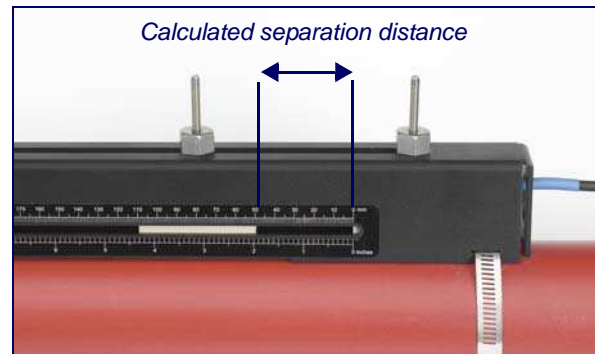

Figure 2.13
10. Position the upstream transducer so that the inner face of the transducer is set to the required separation distance on the ruler, as shown in Figure 2.13 (50 mm in this example).